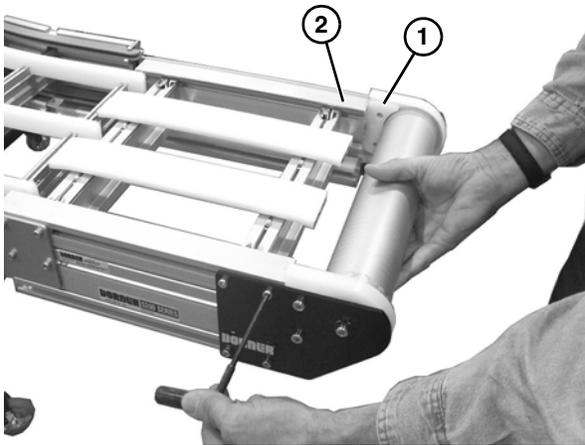

Figure 48
When reinstalling the idler spindle tail assembly, the idler terminal assembly (**Figure 48, item 1**) should mate flush with the conveyor frame (**Figure 48, item 2**).